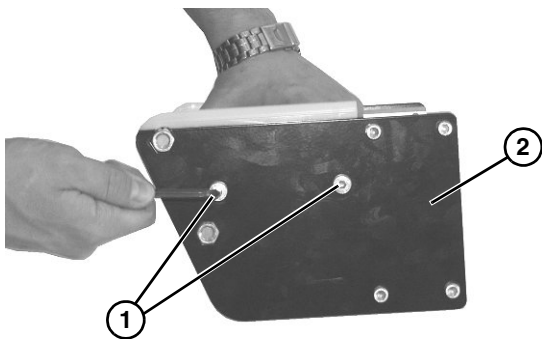

Figure 47
4. Remove two low head cap screws (**Figure 47, item 1**) from plate (**Figure 47, item 2**). Repeat procedure on opposite side.